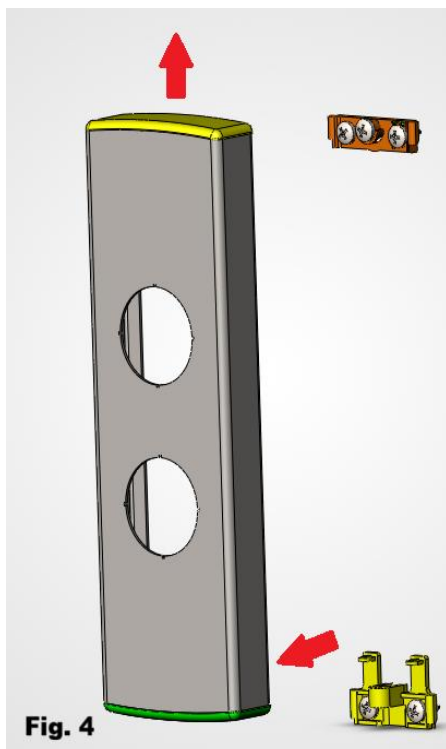

Fig. 4 — Removal of the tailpiece and detachment of the fixture
1. Detach the fixture from the brackets and remove the tailpiece (Part B) from the upper end (Fig. 4).